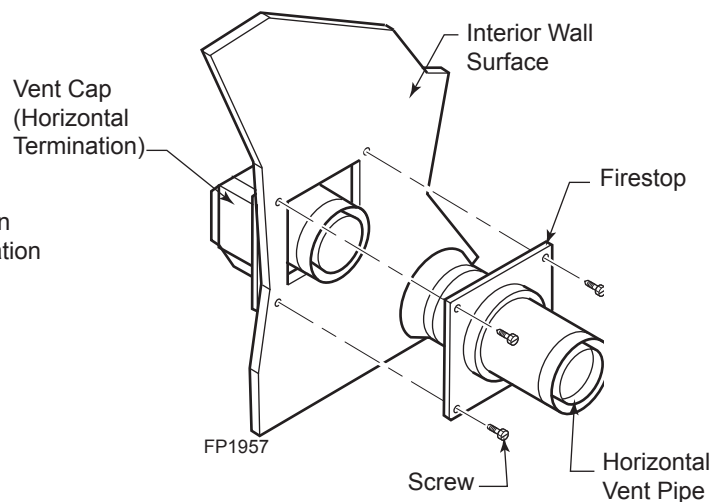

Figure 19 - Installing Firestop on Horizontal Vent Pipe
5. Slide the firestop over the vent pipe before connecting the horizontal run to the vent cap. *Figure 19*
7. Slide the firestop against the interior wall surface and attach with screws. *Figure 19*